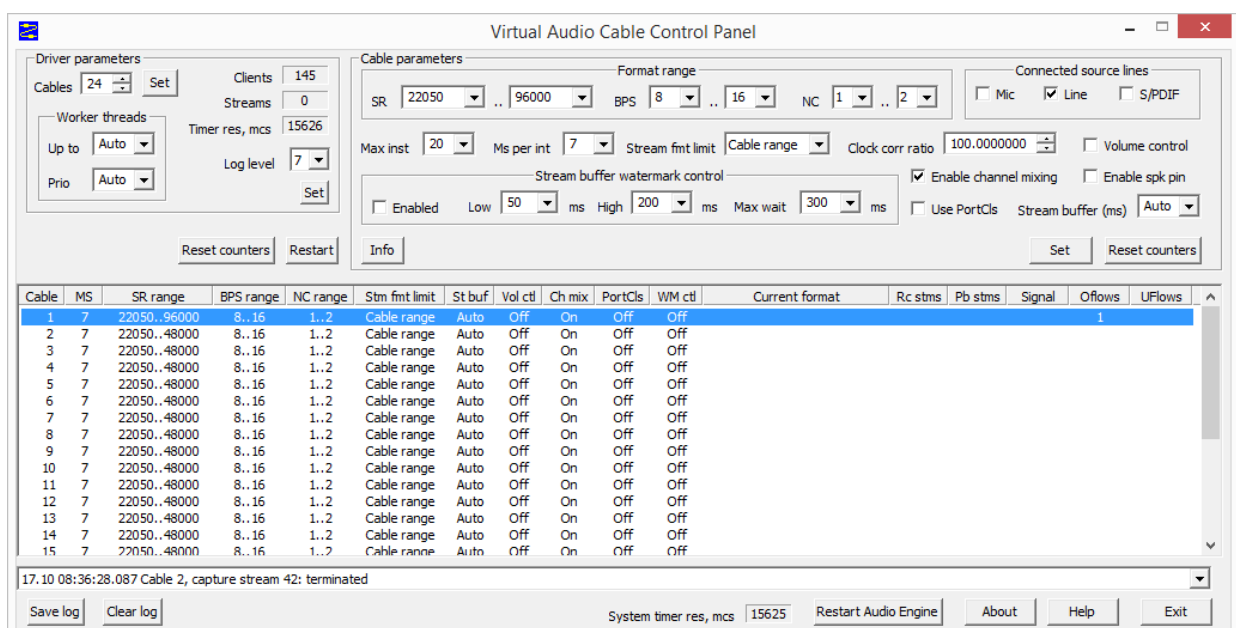

Figure 3: You need also at least two virtual audio cables, or VAC. Here 24 VACs had been made.
- Specify the number of virtual cables you want: “Cables xx Set” in the upper left part under “Driver parameters”. See Figure 3 for an example with 24 cables, a number needed for other software also.